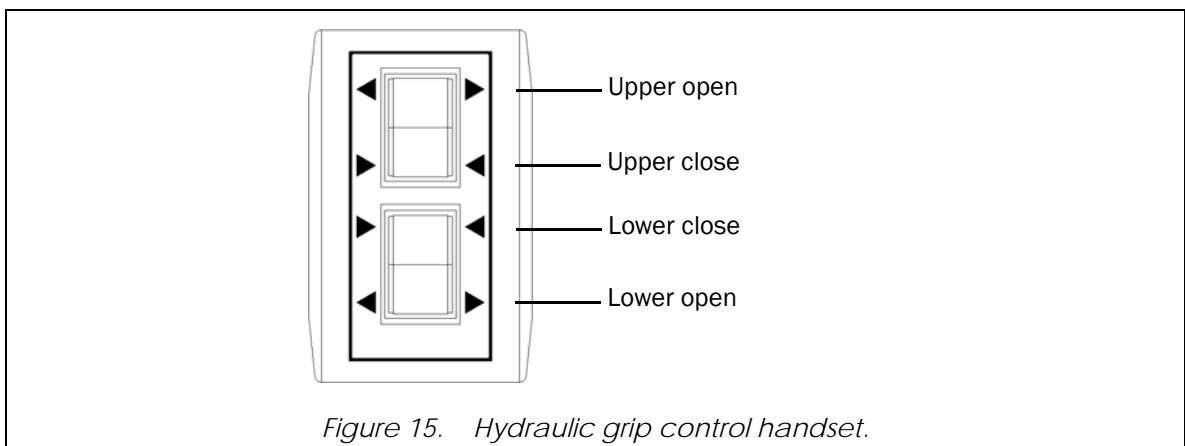

Figure 15. Hydraulic grip control handset.
For G7-style crossheads, the grip assemblies are actuated hydraulically. Components of the grip assemblies are illustrated in Figure 14. The operator uses a grip control handset (Figure 15 on page 34) to operate a hydraulic piston that is inside the crosshead. A push plate (18) is mounted to the piston. As the piston is extended, the push plate lifts the jaw carriers (6) in the grip pocket (16). The wedge shape of the grip pocket forces the jaw carriers and grip jaws to close and clamp the specimen. The grip jaws are held to the jaw carriers by retainer setscrews (14) that are mounted in the jaw carrier. The locating boss (5a) fits into the jaw carrier recess (6a) and the retainer setscrew is tightened against the retainer button (5b). The retainer setscrews are tightened and loosened through an access hole (15) in each front guide plate (7). It is not necessary to remove the guide plate to adjust the retainer setscrew.
A hand-held grip control unit (Figure 15) is supplied to control operation of the hydraulic grips. The unit is magnetically mounted to a bracket on the pendant station. The control unit can be removed from its bracket for in-hand use or can be used while mounted to the bracket.
The controls consist of two three-position rocker switches, one to operate the upper grips and one to operate the lower grips. Pressing one end of the rocker switch will actuate the jaws according to the labeling on the control unit (see Figure 15). Each switch operates as a momentary-type when it is in the **Open** position and as a latch-type when it is in the **Close** position. When a switch is placed in the **Open** position and then released, it automatically returns to its **Neutral** position and grip motion stops. When a switch is placed in the **Close** position, it latches in this position and closes the jaws fully. Be sure fingers or hands are not between the grip jaws when closing the jaws. The switch must remain in the **Close** position once the specimen is clamped and during testing. Do NOT place the switch in the **Neutral** position until the specimen has been removed from the grips.